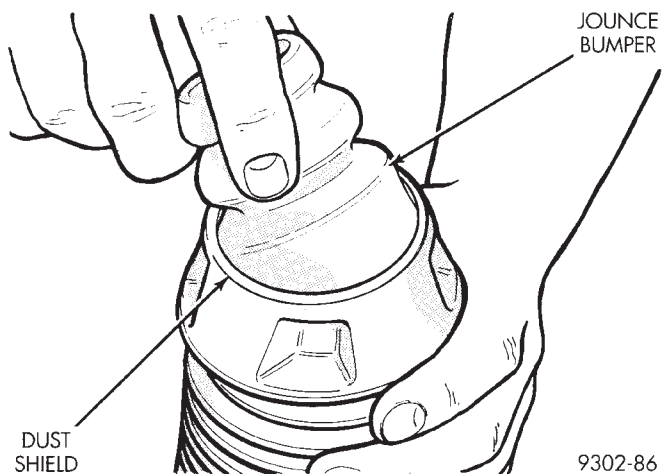
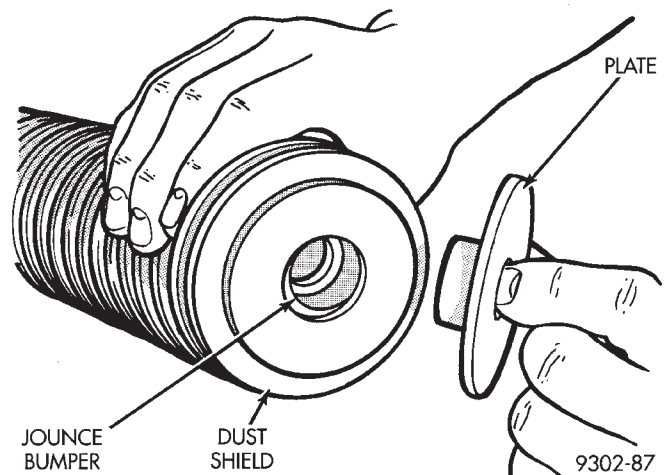

Fig. 7 Jounce Bumper Installed Into Dust Shield
Fig. 8 Plate Installation Into Jounce Bumper And Dust Shield
(2) Install jounce bumper into dust shield (Fig. 7). Install plate on top of dust shield and into jounce bumper (Fig. 8).